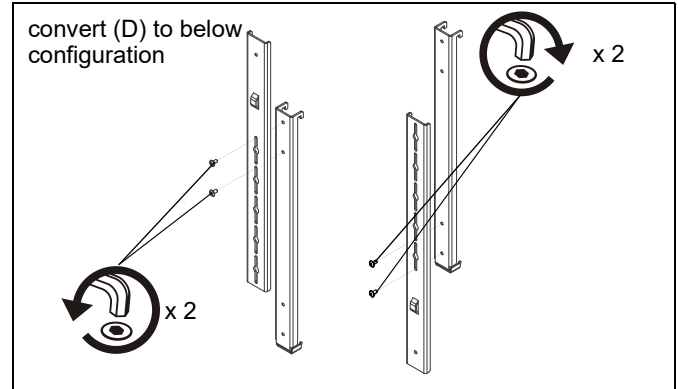

Figure 2
NOTE: If installing below, disassemble macro height-adjustment brackets (D) and reassemble by rotating attachment section of bracket. (See Figure 2)